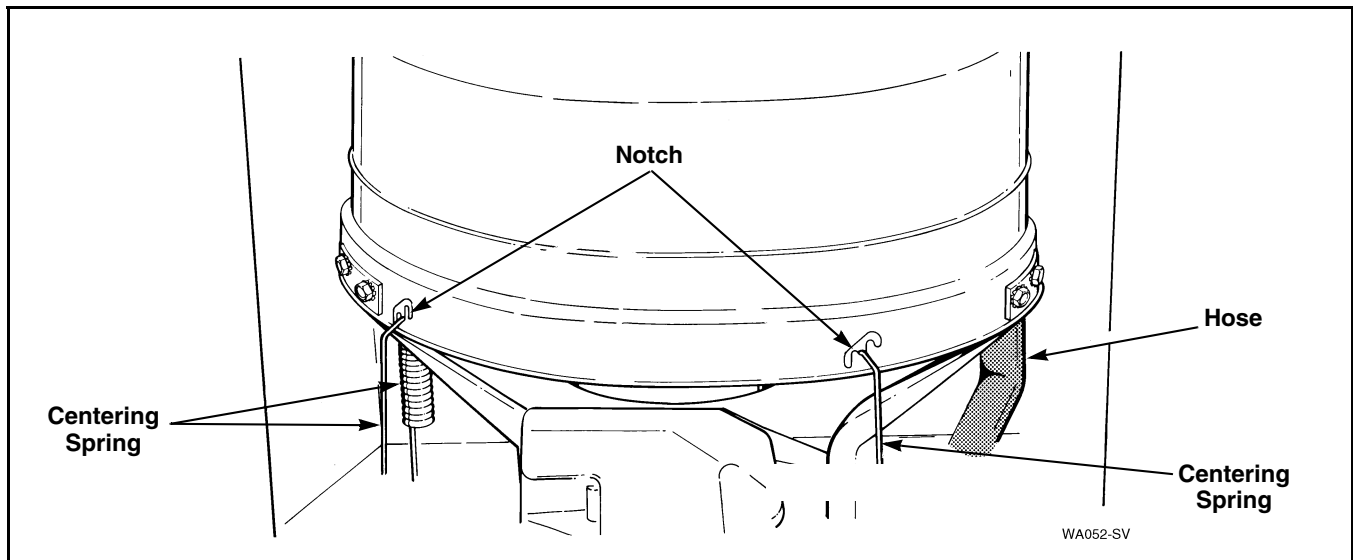

Figure 33
- n. Using No. 321P4 Spring Hook Tool, unhook five centering springs from lower edge of outer tub. Refer to *Figure 33*.
- j. Using No. 321P4 Spring Hook Tool, unhook five centering springs from lower edge of outer tub. Refer to *Figure 33*.